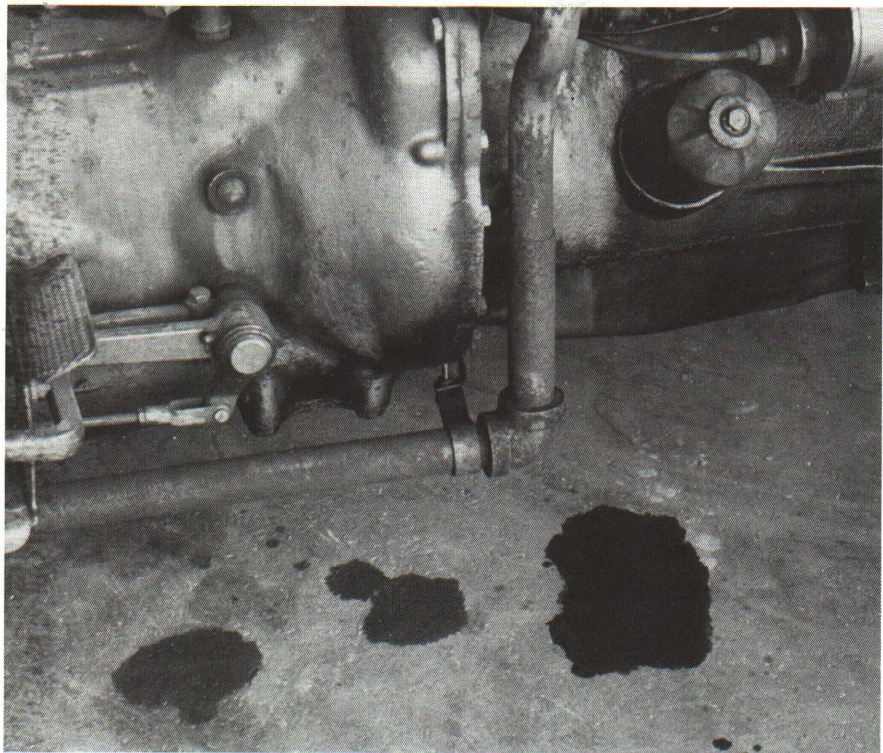

Fig. 1 — Don't overlook fresh grease spots on the floor under the tractor. They could be a trouble symptom.
- leaks. If any are present, try to determine if they are major or minor. Dust accumulations over old grease spots generally are not indicative of a major problem. Fresh grease spots, particularly larger ones, and grease spots on the floor under the tractor justify detailed investigation (Figure 1).